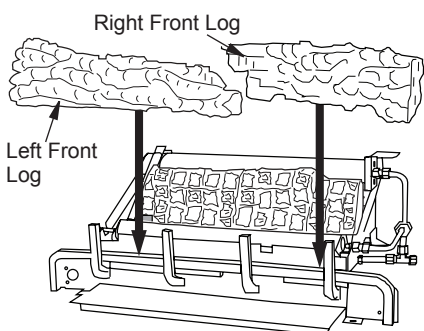

Figure 38 - Installing Left/Right Front Logs
3. Place front left (18" D-064, 24" D-057 & 30" D-038) and front right (18" D-065, 24" D-058 & 30" D-039) logs as shown in Figure 38.